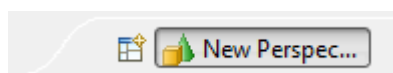

Figure 4. New perspective button in the perspective bar
- The new name of the perspective appears in the perspective bar (see Figure 4). The icon of the new perspective is the same as for the latest active perspective.